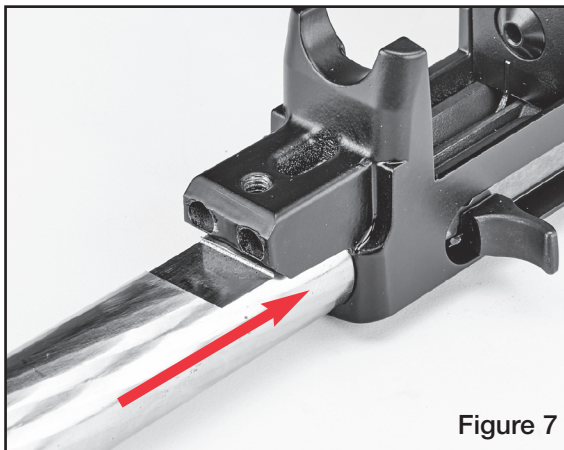

Figure 7
1. Install the target barrel (see Figure 7).